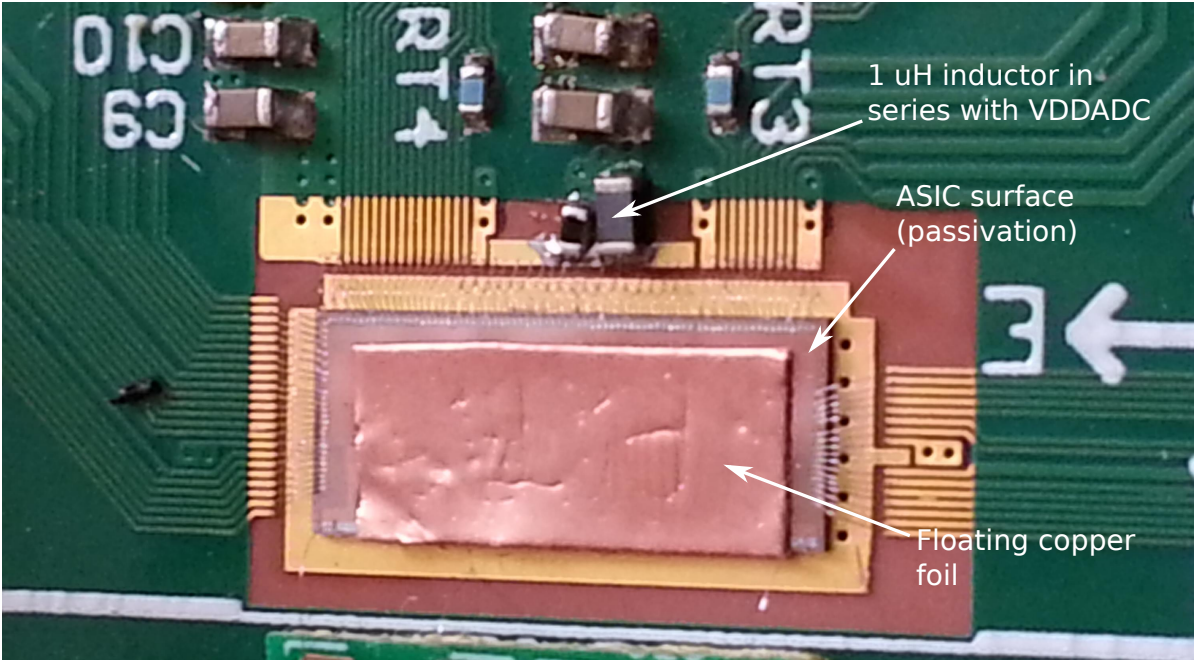

Figure 149: Copper foil on ASIC B0A2 and 1 μ H inductor assembly
- Floating copper foil glued directly on passivation on top of the ASIC (see figure 149);